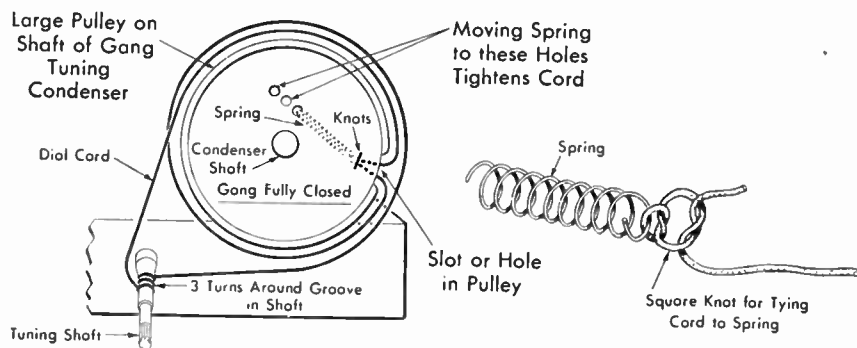

Fig. 2. Simplest dial-cord drive for a gang tuning condenser, and method of tying square knot
**Simple Dial-cord System.** A high percentage of modern receivers use a strong braided dial cord for driving the tuning condenser. The simplest arrangement is that shown in Fig. 2, which is widely used in table-model
A loose cord can be tightened in several ways. Tuning-condenser drums often have several tabs or holes over which the free end of the spring can be hooked. If the spring is in the closest hole, moving it to stretch the spring will tighten the cord, as indicated in Fig. 2.
On most jobs you can restring the system without first cutting the cord from the spool. Start by tying the end of the cord to the spring with a square knot. For a typical simple system, such as that in Fig. 2, bring the cord out of the hole in the pulley and around the top of the pulley, then down to the tuning-knob shaft. Go around this shaft the required number of times (use  $2\frac{1}{2}$  or 3 turns as a trial number when in doubt), back around the other side of the large pulley and once around it, then down into the pulley slot. Loop the cord through the end of the spring to which the other end is already tied, and pull tight enough so the spring is exerting tension. The amount of tension is easily determined by experience with a few jobs; it should be enough to provide tuning without slipping, and yet the cord must not be so tight that it twangs like a violin string when tapped. Now cut the cord, leaving ample surplus to tie the final square knot.